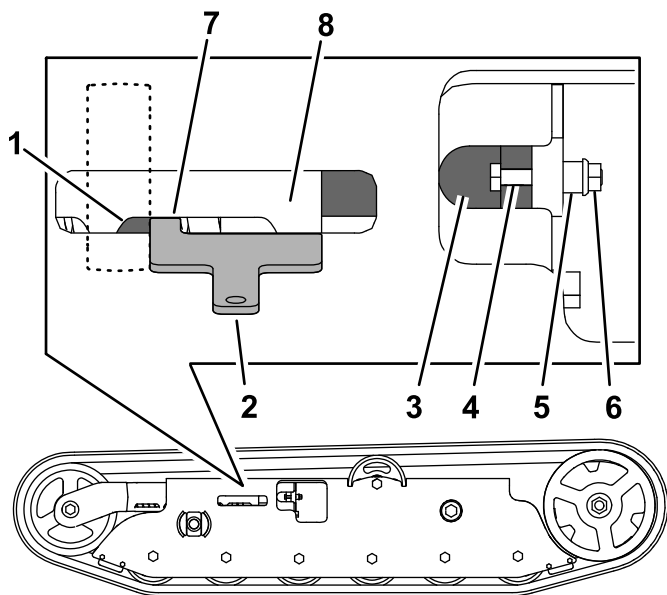

Figure 1
- Remove the bolt (1/4 x 1-5/8 inch), spacer, and nut (Figure 1).
- Turn the tensioning bolt to adjust the tension nut until the edges of the tensioning tool align with the edges of the tension nut and tension arm (Figure 1)
- Align the closest notch in the tensioning bolt to the bolt hole and secure the tensioning bolt with the bolt (1/4 x 1-5/8 inch), spacer, and nut (Figure 1).